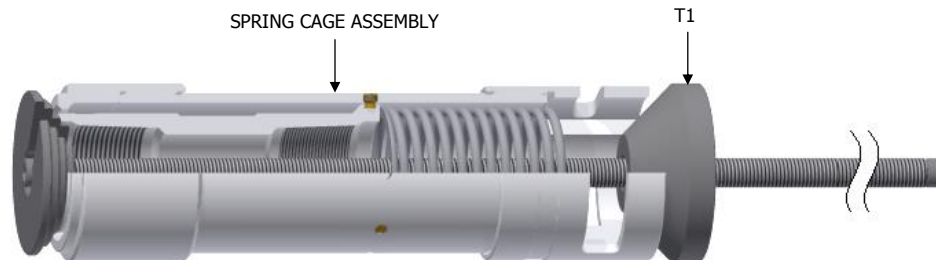

Fig. 2
J-1.17.1) Position assembly tool (T1) hand-tight against top sub (1) and upper slip body (6) of spring cage assembly (Fig. 2).